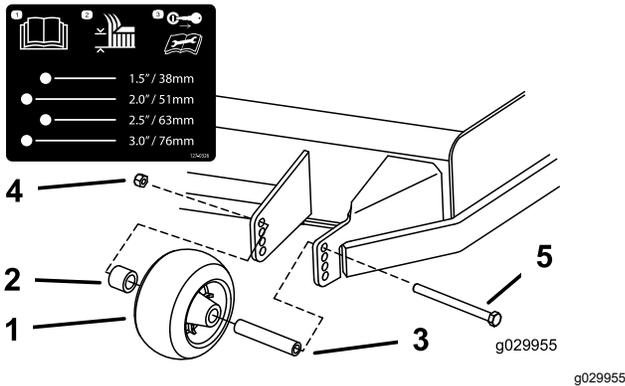

Figure 29
- Adjust the anti-scalp rollers as shown in Figure 29.